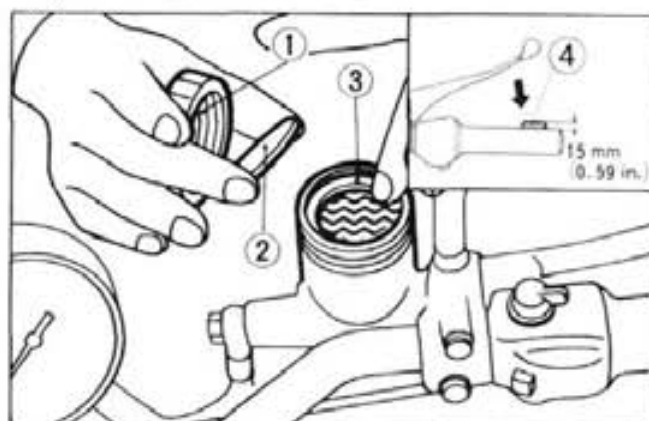

Fig. 14-14 ① Reservoir cap ② Washer ③ Diaphragm ④ Rubber
- b. Remove the reservoir cap and fill the reservoir with **DOT 3** or **SAE J1703a BRAKE FLUID**. Place the cap on the reservoir to prevent the entry of dust. (Fig. 14-14)